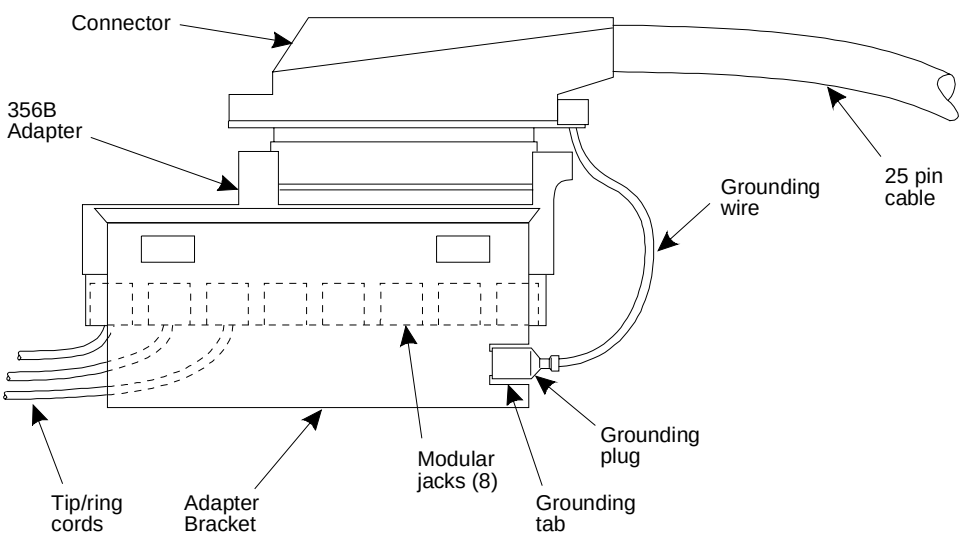

Figure 8-1. Assembly of the MAP/100 Tip/Ring Distribution Hardware
The Tip/Ring distribution hardware with the 356B adapter (Figure 8-1) comes in a kit which consists of:
8. Plug the 3-foot, 6-pin modular cords from the Tip/Ring cards into the 356B adapters. Each adapter can accommodate eight modular cords (Figure 8-1).